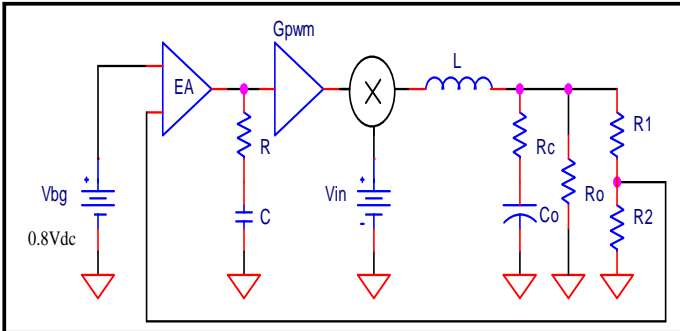

Fig. 2. SC2602L small signal model.
The control model of SC2602L control loop small signal can be depicted in Fig. 2. This model can also be used in SPICE kind of simulator to generate loop gain Bode plots. The bandgap reference is 0.8V and trimmed to +/-1% accuracy. The desired output voltage can be achieved by setting the resistive divider network, R1 and R2.
(6) The final step is to generate the Bode plot, either by using the simulation model in Fig. 2 or using the equations provided here with Mathcad. The phase margin can then be checked using the Bode plot. Usually, this design procedure ensures a healthy phase margin.
(7) An additional capacitor should be reserved at the compensation pin to ground to have another high frequency pole.